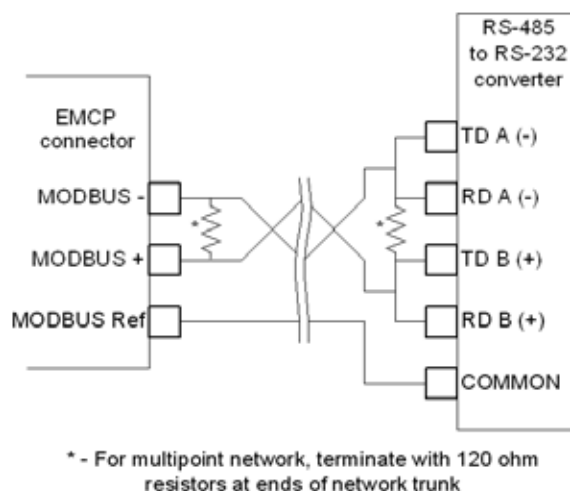

Figure 32.2 – Possible Wiring Configuration to an RS-485 to RS-232 Converter
- Figure 32.2 shows a possible wiring configuration to a RS-485 to RS-232 converter.